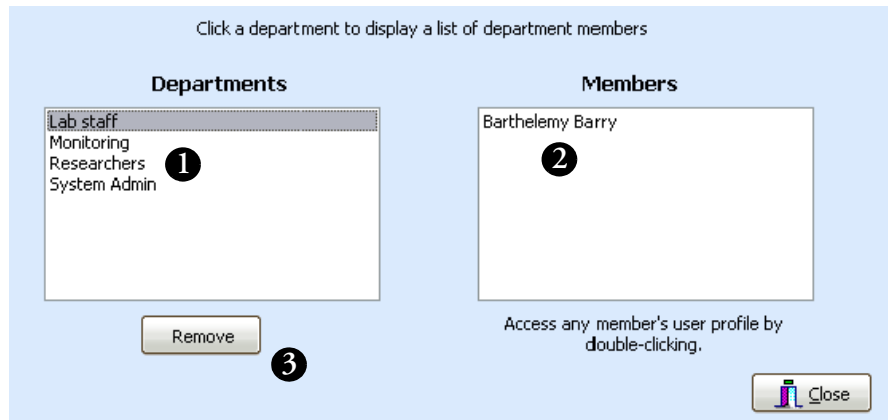

Figure 21. Displaying departments and their members
4. Logged in as Super Administrator or Administrator, click on Department list in the left-hand pane of the User Management screen (#1 in Figure 21) to open the list of currently configured departments, as shown below.